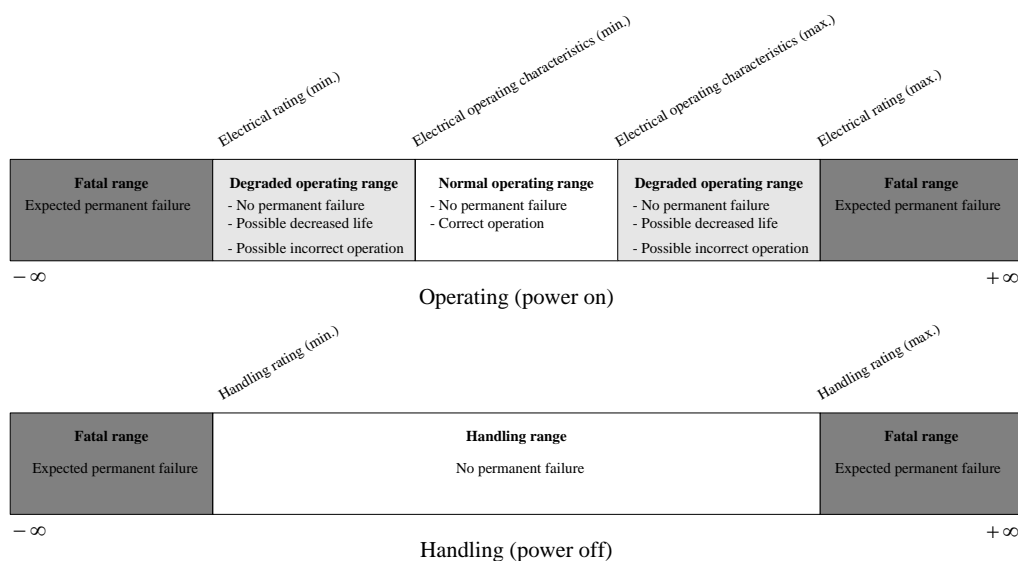

Figure 5. Relationship between Ratings and Operating Characteristics
- To assure chip reliable operation, reserve enough margin for chip electrical design. Figure 5 shows the relationship between electrical ratings and electrical operating characteristics for correct chip operation.